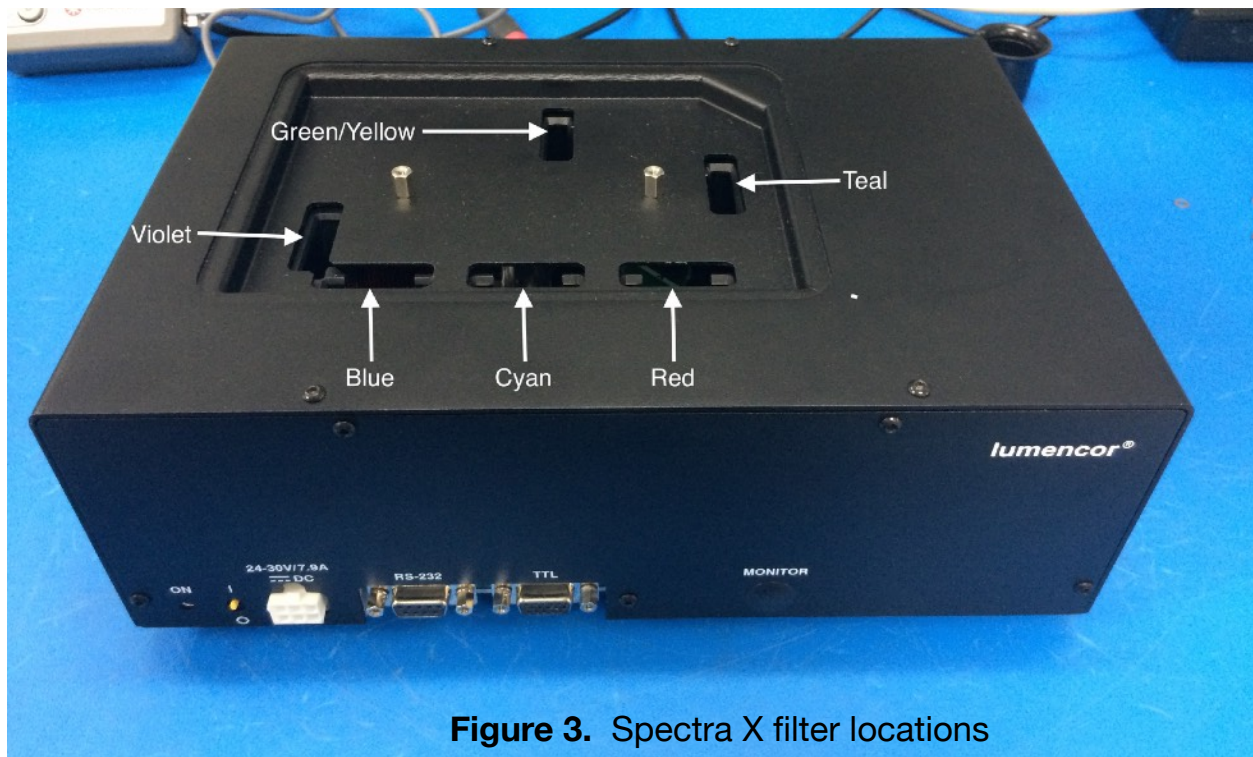
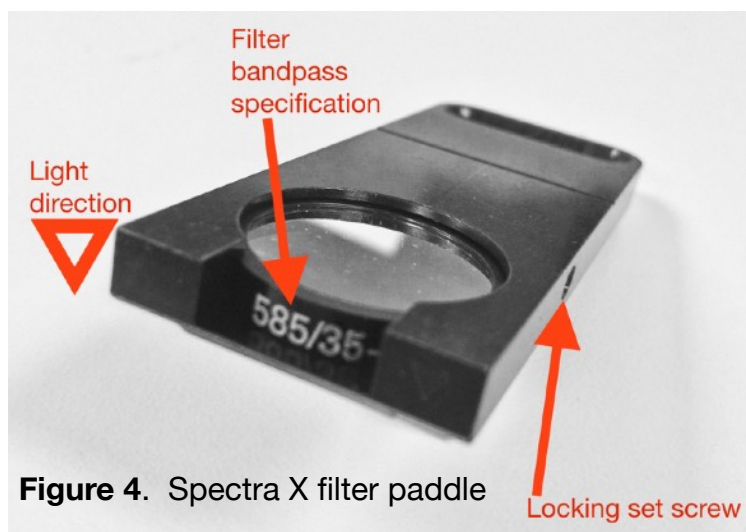

Figure 3. Spectra X filter locations
Figure 4. Spectra X filter paddle
[1] SPECTRA X light engines shipped before March 2017 were supplied with a 28V/7.9A power supply (Lumencor part no. 27-10003). The correct power supply rating for the light engine is marked above the DC power input connector on the back of the light engine (Figures 3 and 5).
removable paddles which the user can access once the top cover retained by two thumb screws is removed (Figure 3). The paddles accept standard 25 mm diameter filters. A set screw recessed in the body of the paddle engages the perimeter mounting ring of the filter to secure it in place (Figure 4). A listing of standard bandpass filters available for installation in SPECTRA and SPECTRA X light engines can be found at <http://lumencor.com/products/filters-for-spectra-x-light-engines/>
14. The G/Y button selects green or yellow light output from SPECTRA light engines. Green output is the default selection on start up. For SPECTRA X light engines, this control is inactive and green/yellow output selection is accomplished by manual interchange of filters (Figure 3).
Remove any built-up dust or accumulation on the air intake ports. A vacuum may be used to remove debris so that a steady supply of air is available for cooling. It is recommended that these dust-filters be cleaned by a gentle suction device at least every 6 months and more often in dusty or smoke-filled environments. There are no user-replaceable components or sub-assemblies inside the SPECTRA. Opening the light engine enclosure will void the manufacturer's warranty. The same stipulations apply to the SPECTRA X with the exception of permitted access to the filter compartment as shown in Figure 3.